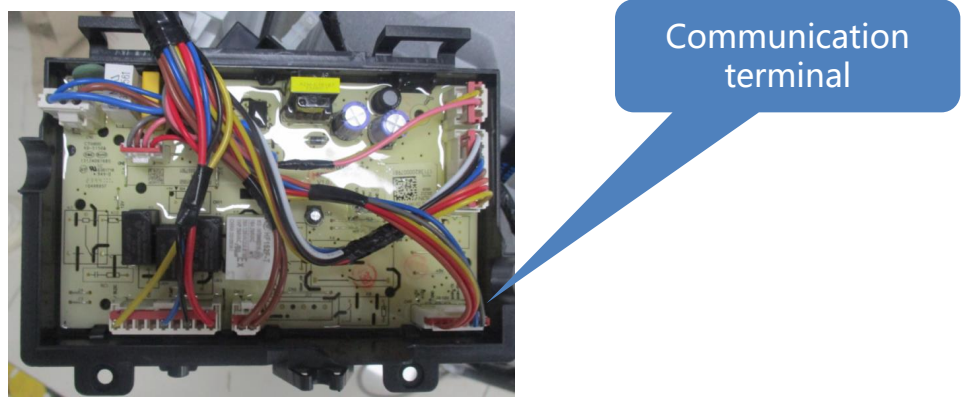

Fig.2
- ① Check whether the main control board communication terminal is damaged, if it' s damaged the E82 warning will occur . It' s recommended that the user need to repair or change the main control board. (Fig.2)